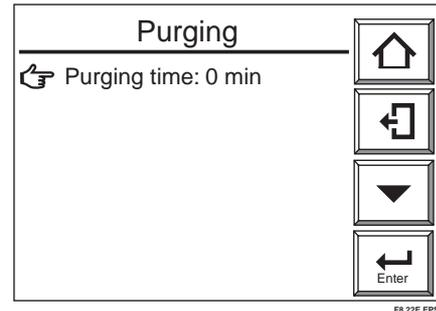

Figure 8.22 Purging Display
- (4) Select Purging. The Purging time setting display appears, as shown in Figure 8.22.
- (5) Point to the Purging time and press the [Enter] key. Then the display for selecting purging time appears.
- (6) Enter the desired numeric value from the numeric-data entry display.